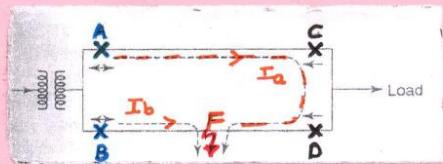

Fig 2.9 Protective scheme for Parallel Feeders
- \* Fig 2.9 shows an over-current Protective scheme for Parallel feeders.